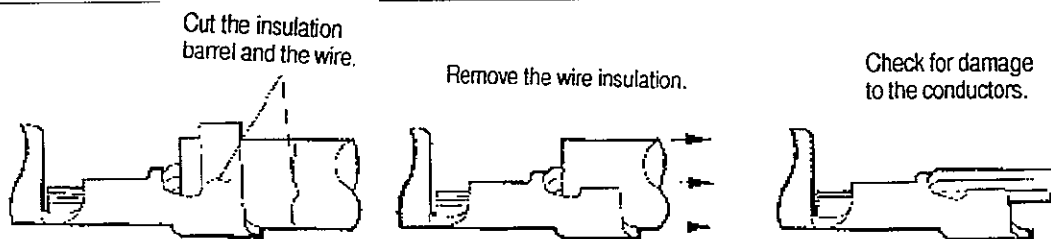

Figure 7
3. Cut the insulation barrel and the wire as shown in Figure 7 and remove the wire insulation. Check that the conductors are not damaged.